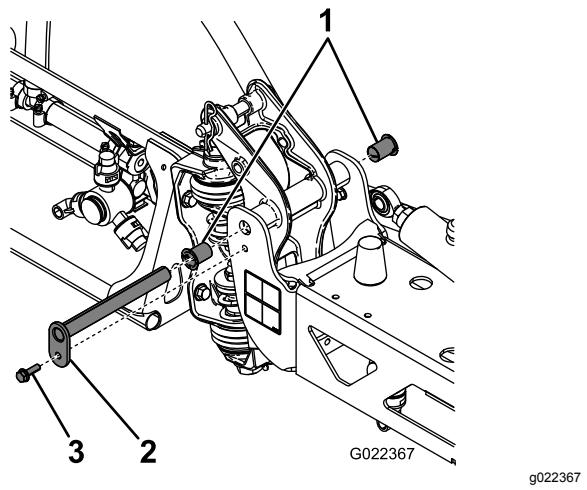

Figure 85
3. With the weight of the boom supported, remove the bolt and nut securing the pivot pin to the boom assembly (Figure 85).
6. Remove and inspect the nylon bushings from the front and back sides of the pivot bracket (Figure 85).
8. Install the boom and pivot bracket assembly into the center frame, aligning the openings (Figure 85).